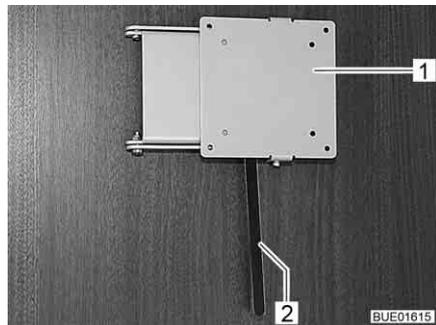

Fig. 63 Holder with release lever
- Push the release lever (Fig. 63,2) to the side and turn the holder (Fig. 63,1) with the flat screen to the desired position.
- Turn flat screen back until the holder (Fig. 63,1) engages in the lock.